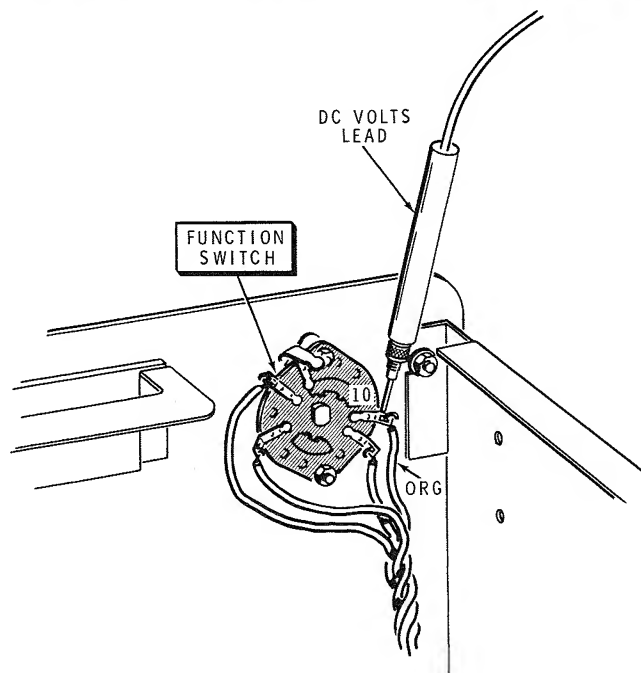

Figure 6
- ( ) Refer to Figure 6 and touch or connect the meter dc volts lead to lug 10 of the FUNCTION switch. This lug has an orange wire connected to it.